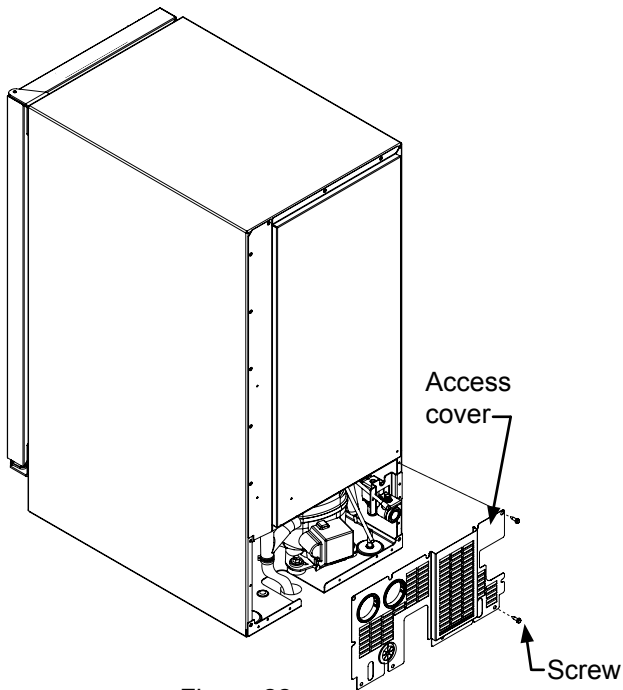

Figure 22
3. Switch the rocker switch to CLEAN for approximately one (1) minute. This will energize and open the water valve and remove most of the water from the water valve and the water valve's outlet water line to the reservoir.
6. Remove the access cover from the rear of the ice machine. (See Figure 22).